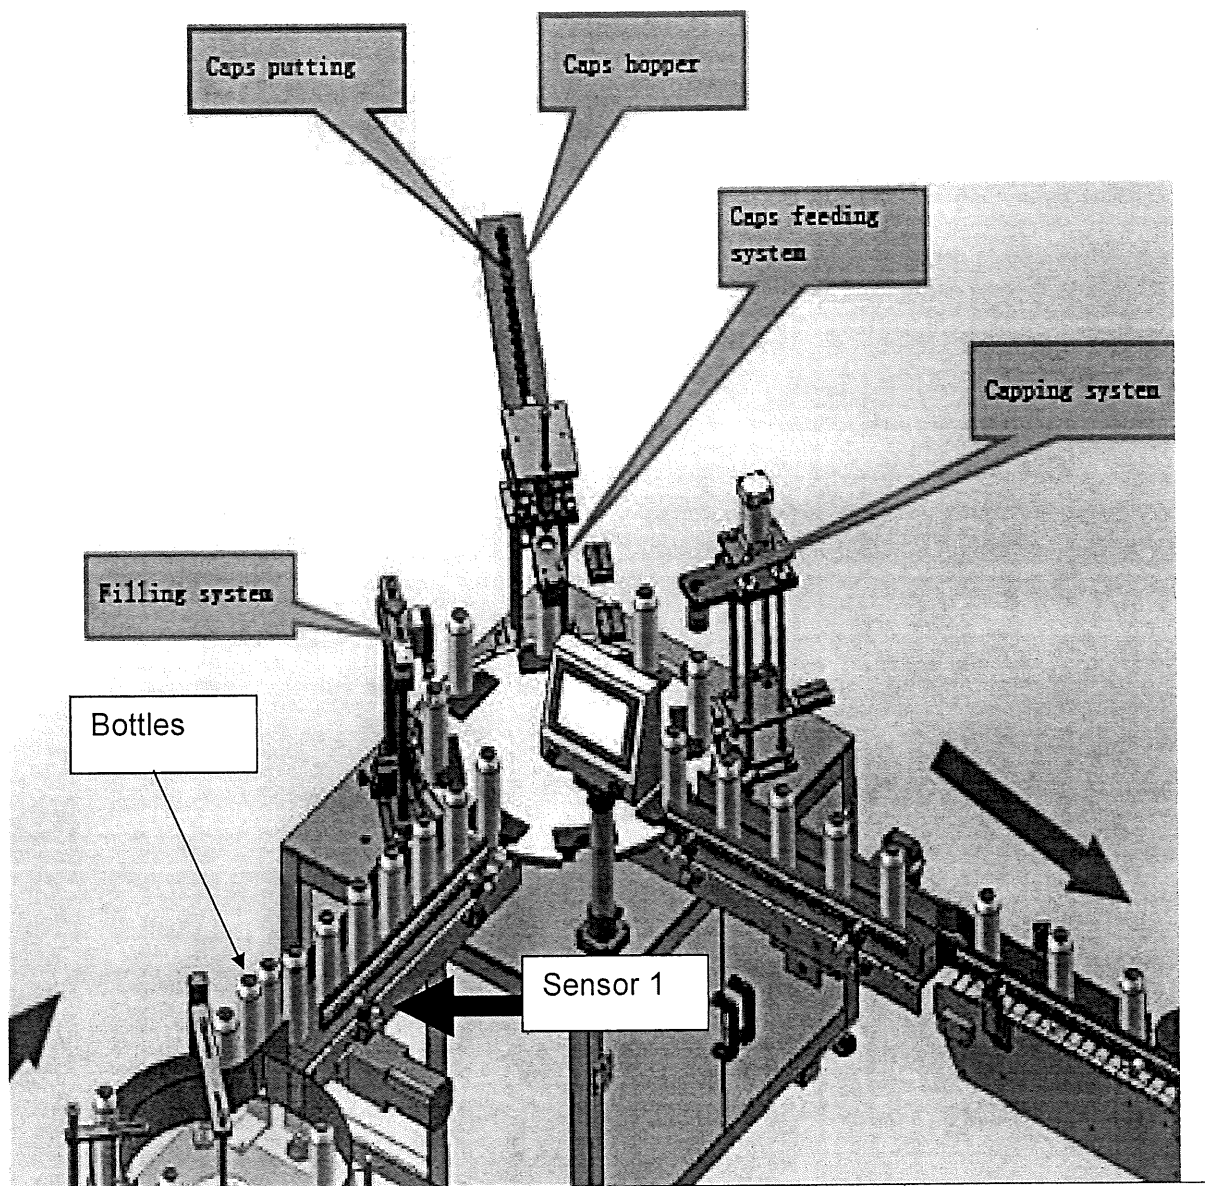

Figure 4
- b) Figure 4 displays an automatic filling and labeling machine that consists of 4 steps. First we verify the bottle is in good condition. Next we fill in water inside the bottle. Then we place a bottle sealer and finally we eject the completed bottle to the next station. If the bottle is in bad condition, we need to reject it. Therefore we need to track the bad bottle in the process line so that we can tell the system not to do each task. We use a sensor to look at the bottle condition. An encoder tracks the bottle going along the conveyor.